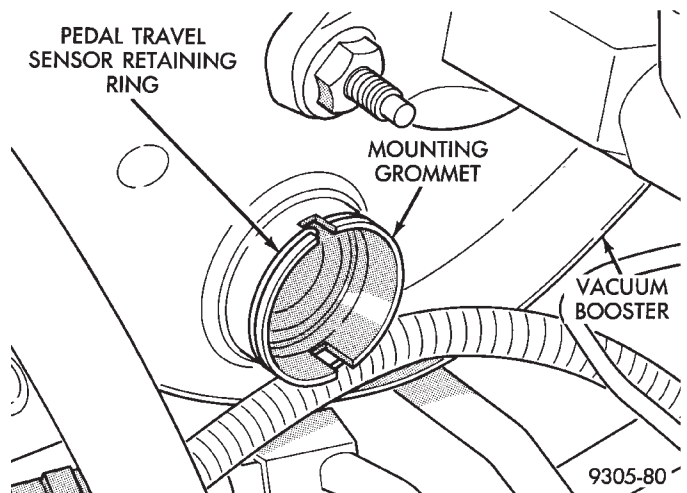

Fig. 18 Retaining Ring Installed On Grommet
(7) Install pedal travel sensor retaining ring on travel sensor grommet in the vacuum booster (Fig. 18). Tab on retaining ring should be located in top notch of mounting grommet.